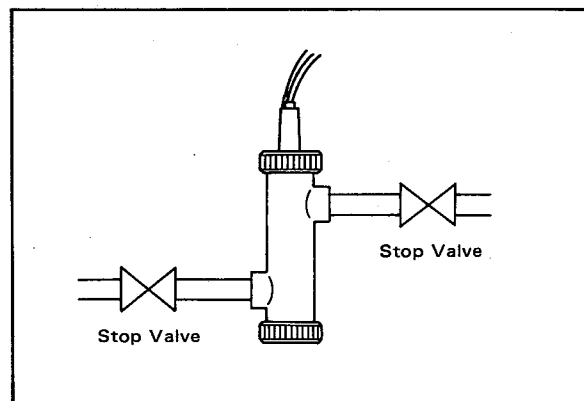

Figure 3-1. Process Piping of Flow-through Type Holder.
- (1) Close the valves to shut off the flow of measured solution (see Figure 3-1) – first in the inlet then the outlet valves in the flow-through type holder.